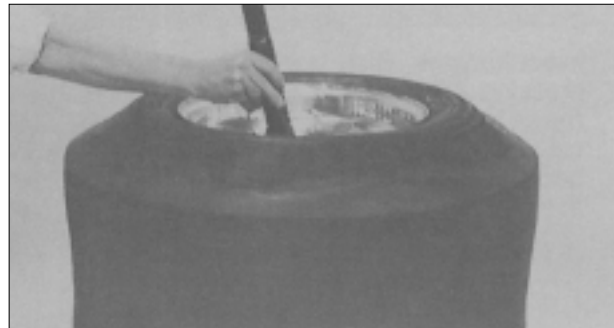

Figure 20 - Optional Long Center Post Extension
4. For mounting and demounting tires on wheels wider than 14", use the optional center post extension (part #8108313). Slip the extension over the center post key (figure 20).